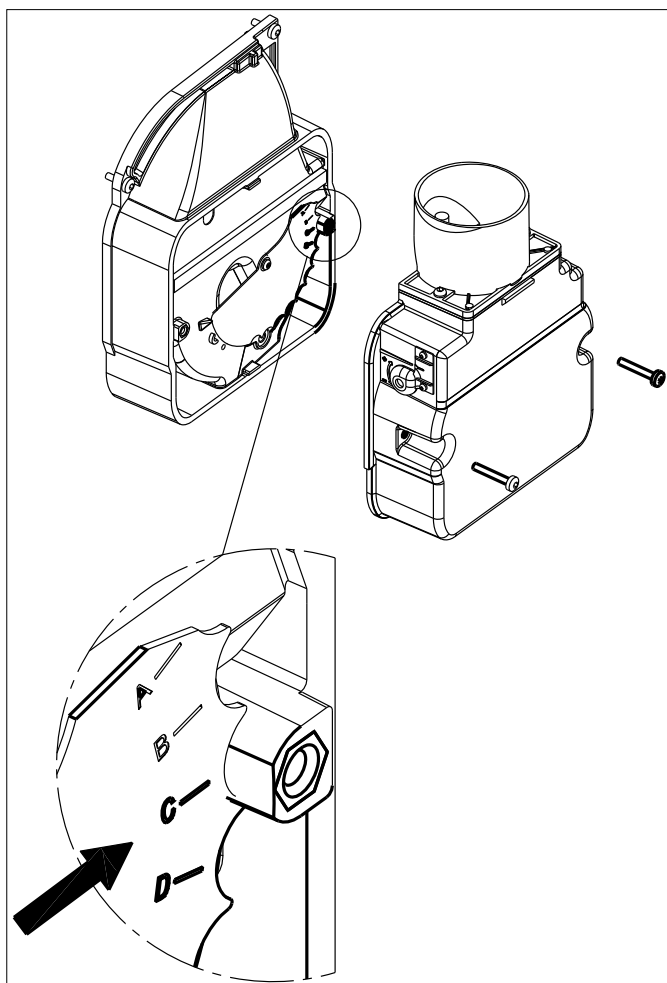

Figure 10-6: Air adjuster disc
Refer to Figure 10-6.
4. The air adjuster disc is mounted on the fan housing. Refer to Figure 10-6.